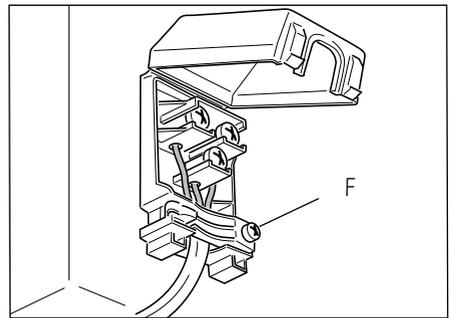

Figure 6
- Open the cable crimp by unscrewing screw "F" (Fig. 6), unscrew the terminal screws and remove the cable.